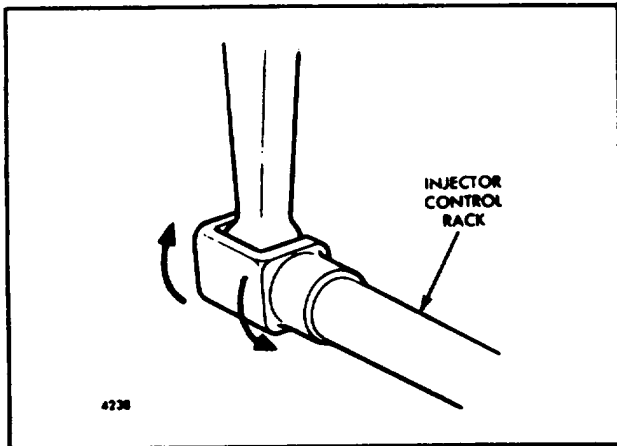
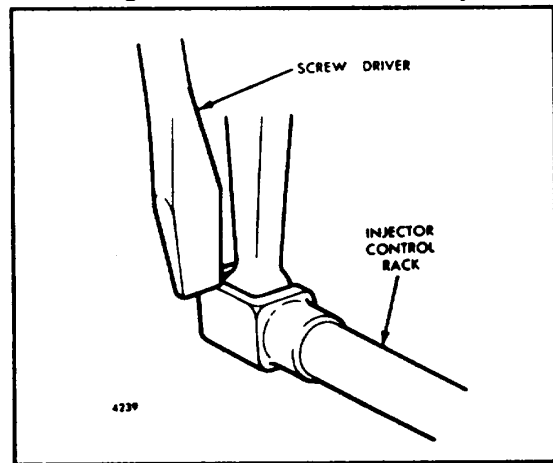

Fig. 3 - Checking Rotating Movement of Injector Control Rack
Fig. 4 - Checking Injector Rack "Sprint"
6. To be sure of the proper rack adjustment, hold the speed control lever in the full-fuel position and press down on the injector rack with a screw driver or finger tip and note "rotating" movement of the injector control rack (Fig. 3) when the speed control lever is in the maximum speed position. Hold the speed control lever in the maximum speed position and, using a screw driver, press downward on the injector control rack. The rack should tilt downward (Fig. 4) and when the pressure of the screw driver is released, the control rack should "spring" back upward.